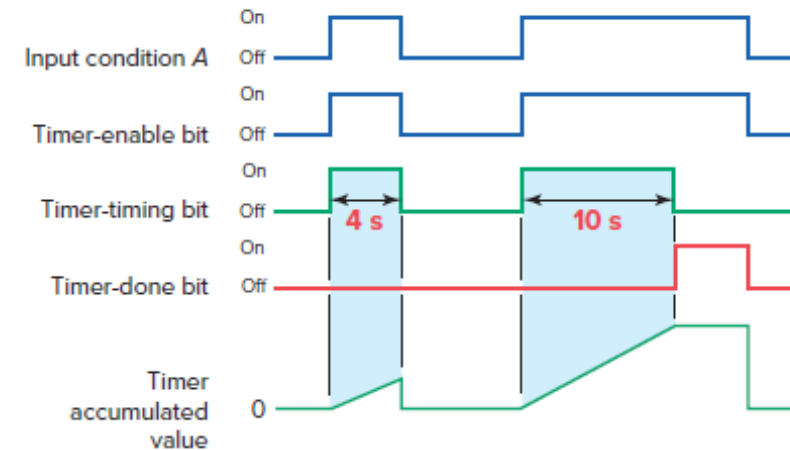

Figure 7-16 Timing diagram for an on-delay timer.
- Figure 7-16 shows the timing diagram for the on delay timer's control bits. The sequence of operation is as follows: